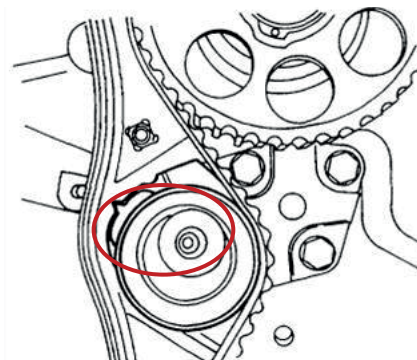

FIG. 9
6. Bring tensioner pointer in line with the pointer on the tensioner back-plate by rotating the water pump anticlockwise, with special adjustment tool (Fig. 9).